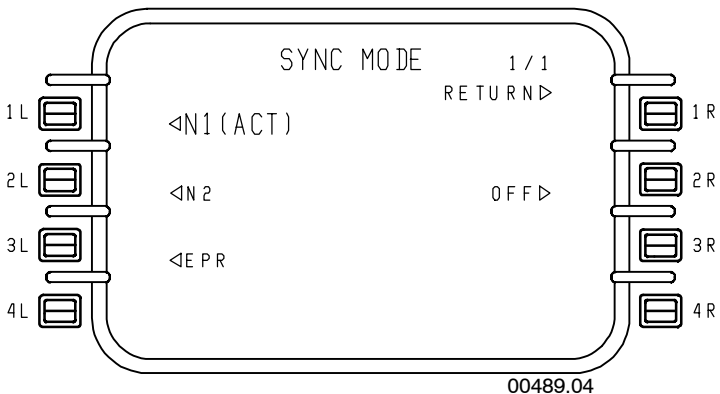

Figure 5-52
- **SYNC MODE 1/1** – Figure 5-52 is used to select the engine sync mode.